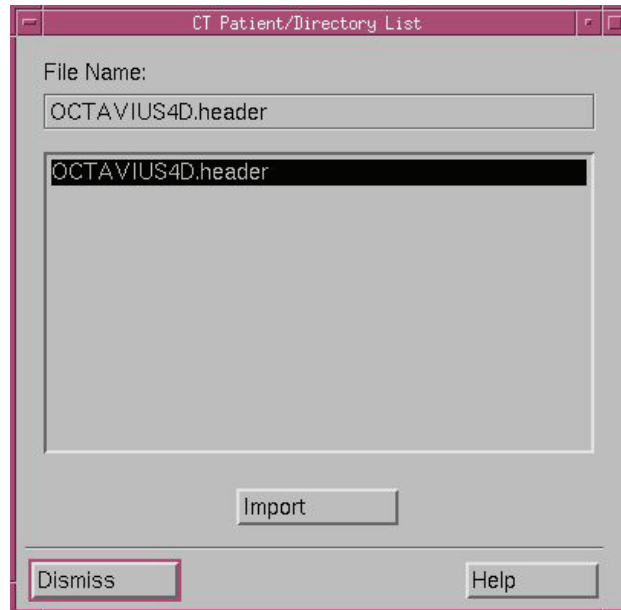

Fig. 4.4 CT Patient/Directory List window.
4. Select the phantom dataset to be used (Figure 4.4): use that one which has the same patient orientation as the selected patient plan (the **CT Patient/Directory List** window should list an "OCTAVIUS 4D.header" entry phantom for every treatment orientation used: for example, "OCTAVIUS 4DHF.header", "OCTAVIUS 4DFF.header", etc, properly saved as explained at paragraph 2-point 9). Then, click the **Import** button.